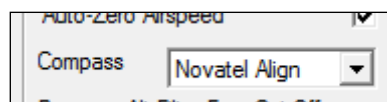

Figure 17 - NovAtel ALIGN Heading Compass Setting
5. On the Sensors tab of the VRS editor, set **Compass** to **NovAtel ALIGN**, as shown in Figure 17 - NovAtel ALIGN Heading Compass Setting. This sets field 94 [useCompass] to 4.